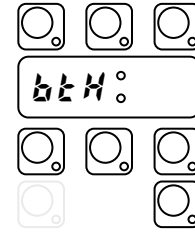
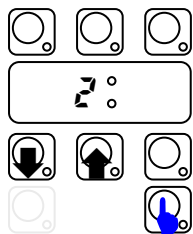

Fig. 5.4
Fig. 5.5
- Press **CYCLE\_INFINITE** key to confirm. The display shows the next parameter (Fig.5.4) and the corresponding value (Fig.5.5);